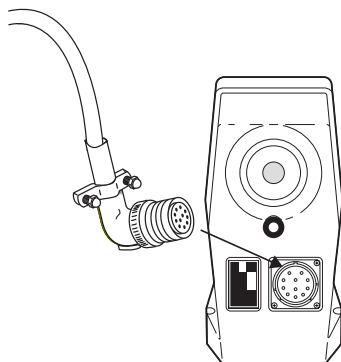

Figure 9-1. Attach Coil Cord to Tracker
1. Connect the coil cord to the Sonic Tracker (Figure 9-1).